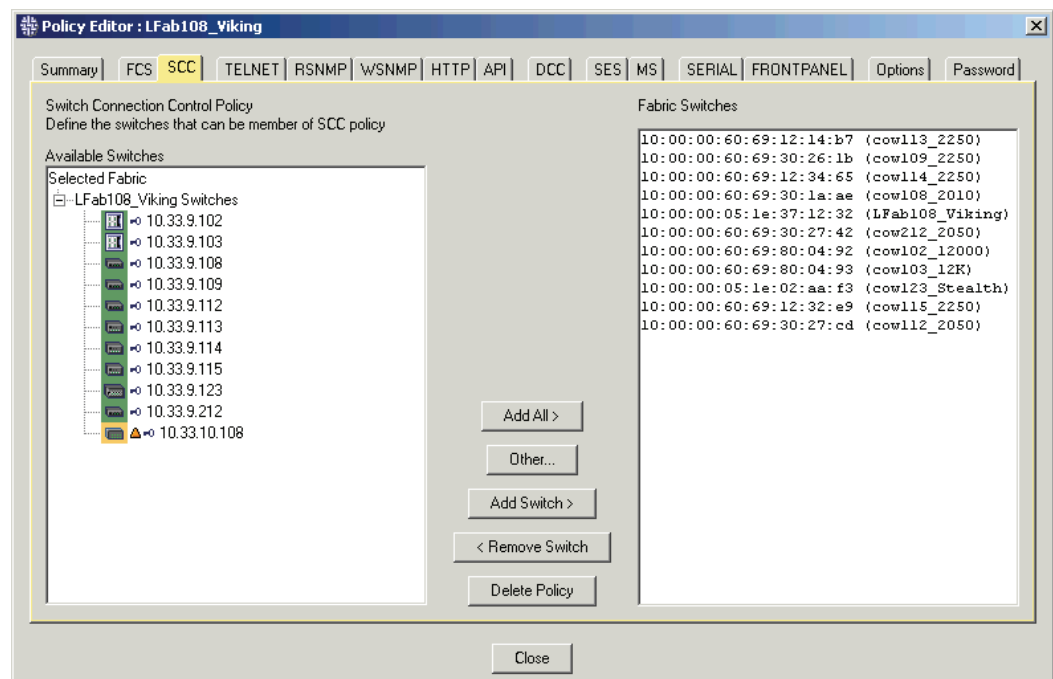

Figure 17-5 Configuring the SCC Policy
2. Click the **SCC** tab (see Figure 17-5).